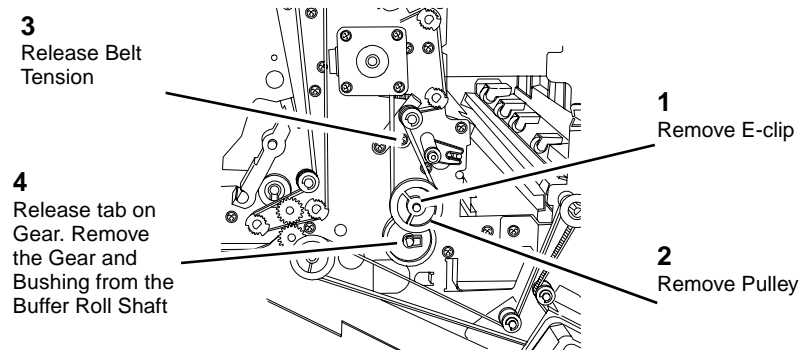

Figure 3 Removing Pulley and Gear
4. Remove Pulley and Gear (Figure 3).